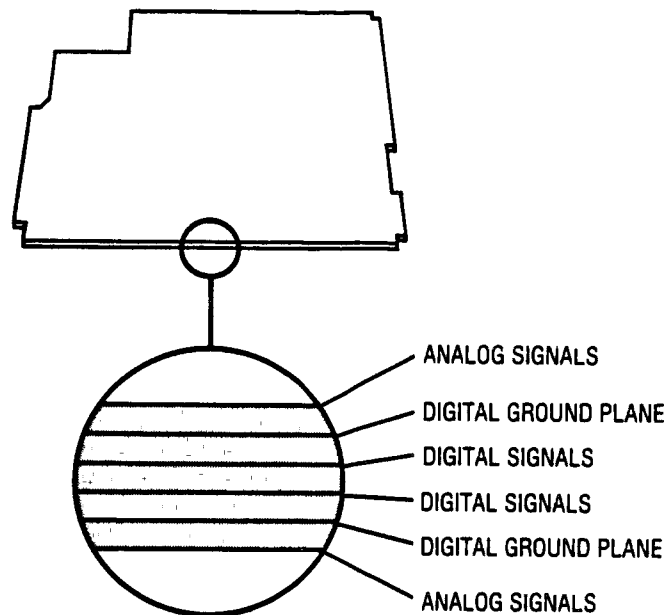

Figure A62-1. A62 Motherboard Cross Section
- **GND PLANE** — Refer to Figure A62-1.